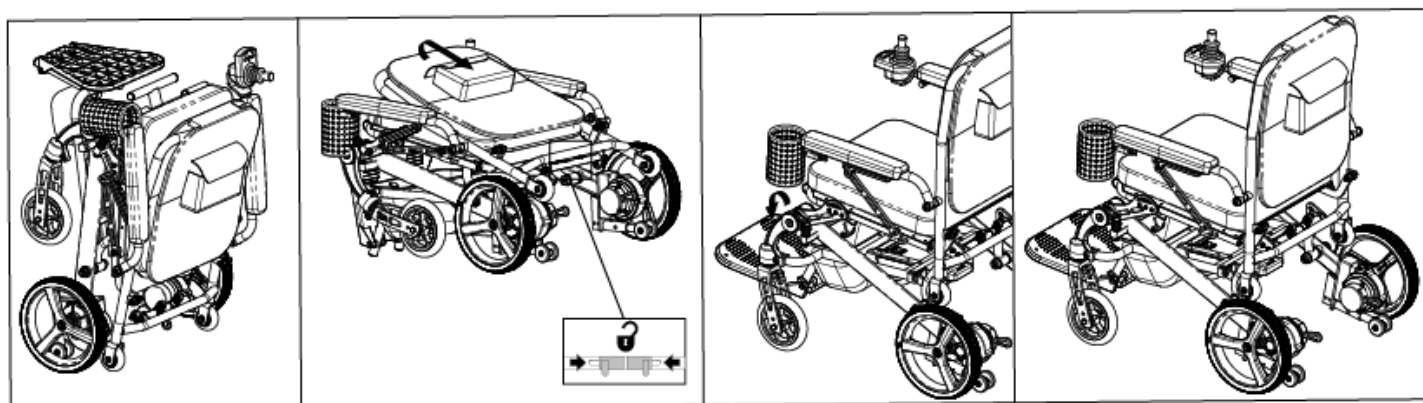

Figure 8. Dashi
2. Place one hand on top of the seatback and push it downward while squeezing the pins of the locking mechanism together. **See figure 8.**